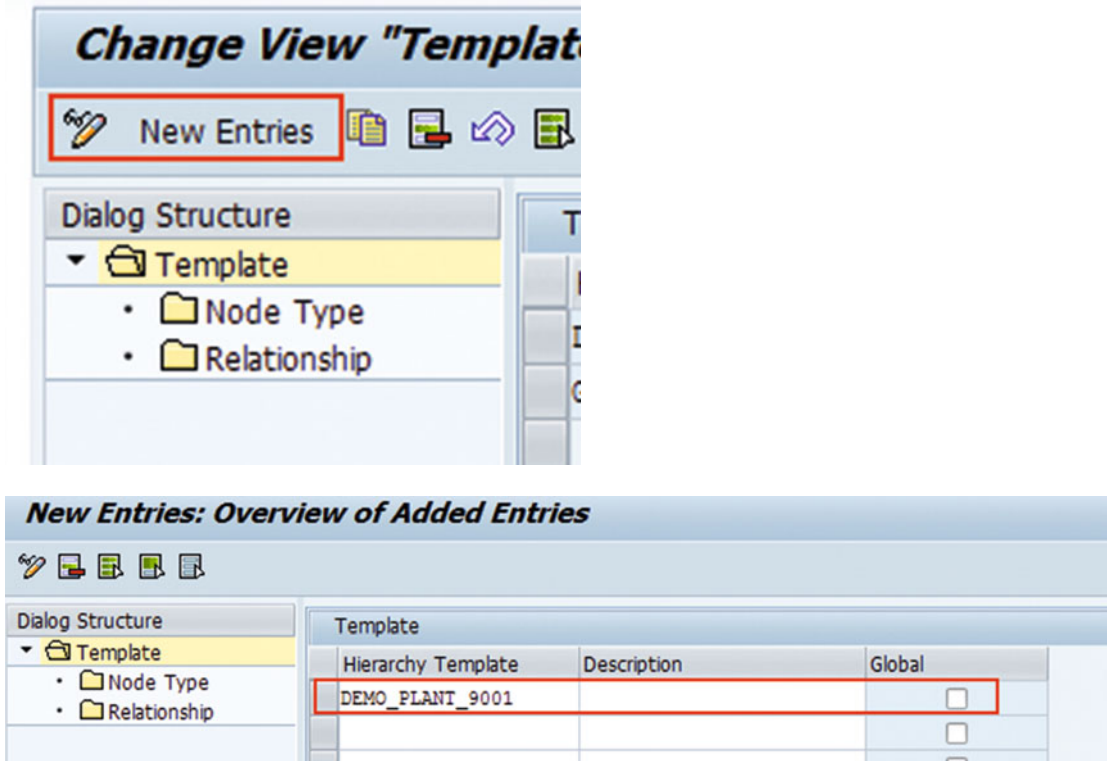

Figure 3-34. Configure plant hierarchy template
2. Select New Entries and enter the new hierarchy template name; e.g., DEMO_PLANT_9001. In the main screen, do not check the “Global” checkbox, as it is a plant hierarchy and not a global hierarchy, as shown in Figure 3-34.